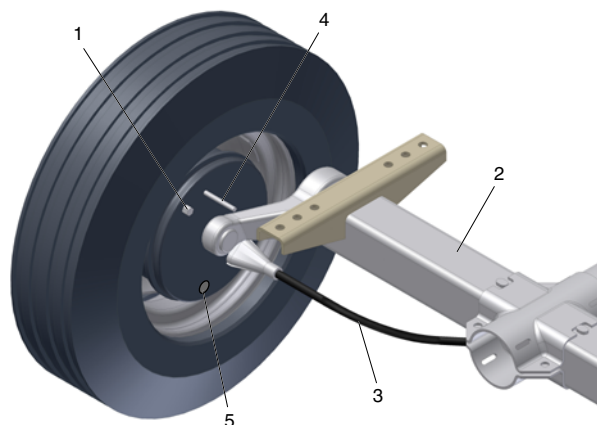

Fig. 5.5 Brake shoe adjustment
Lift and support the compressor. Make sure that all brakes are off (overrunbrake and hand brake lever). The brake cables must be free from tension. Lock the swivel cams of the wheel brake from the outside by means of a pin Ø 4 mm (4) through the hole as shown in Fig. 5.5.